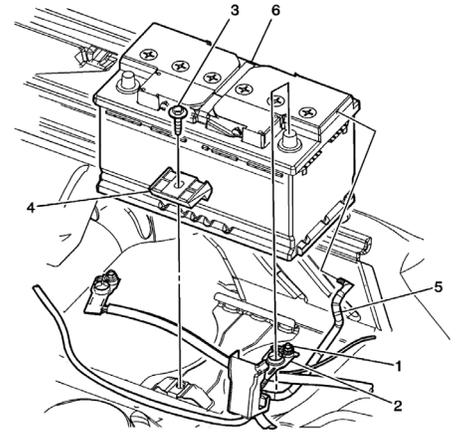

Fig. 2 Battery removal
4. Disconnect battery ground cable, **Fig. 2**.